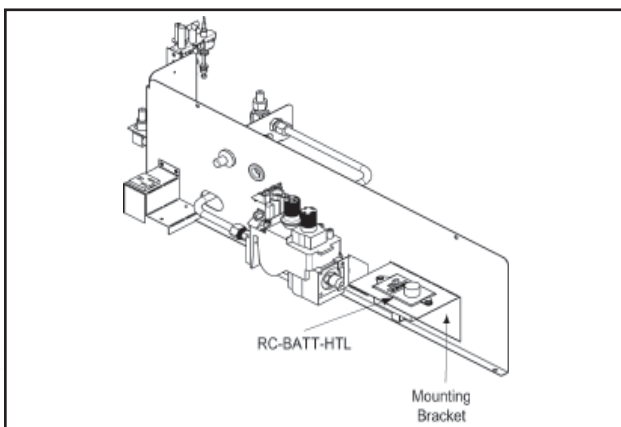

Figure 3 - Receiver Placement - Odyssey
- c. Mount the RC-BATT-HTL into the bracket. See Figure 3.